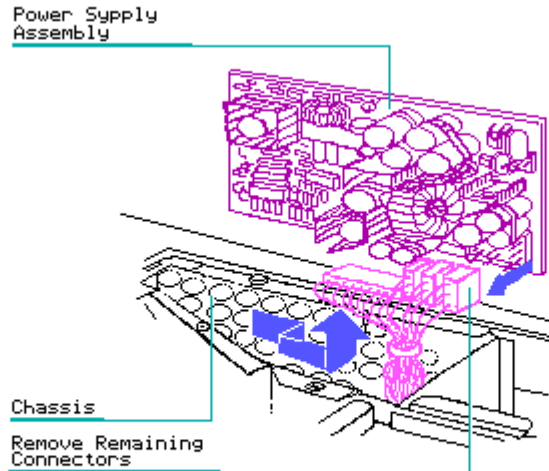

Figure 7.8-9. Removing the COMPAQ Portable Power Supply Assembly
7. Carefully lift the power supply assembly out of the chassis and gently remove all remaining connectors from the board (Figure 7.8-9).